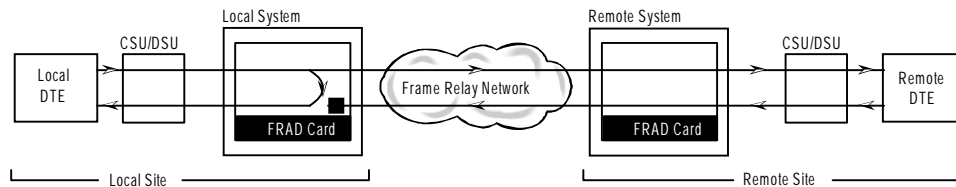
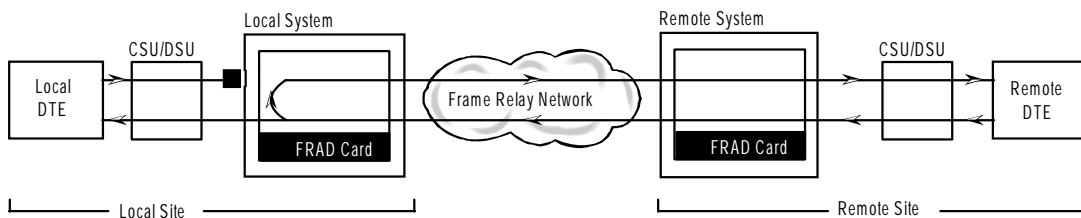

Figure 4-3. DTE Loopback
Figure 4-4. Network Loopback
The Loopback (LB) setting allows you to activate a number of different loopback options for RS232. The **off** option is the default setting. The **dte** (DTE) option (shown in Figure 4-3) loops data from the local DTE back to itself through the local FRAD card. The **net** (network) option is shown in Figure 4-4; it loops data back toward the distant DTE through the local FRAD card.